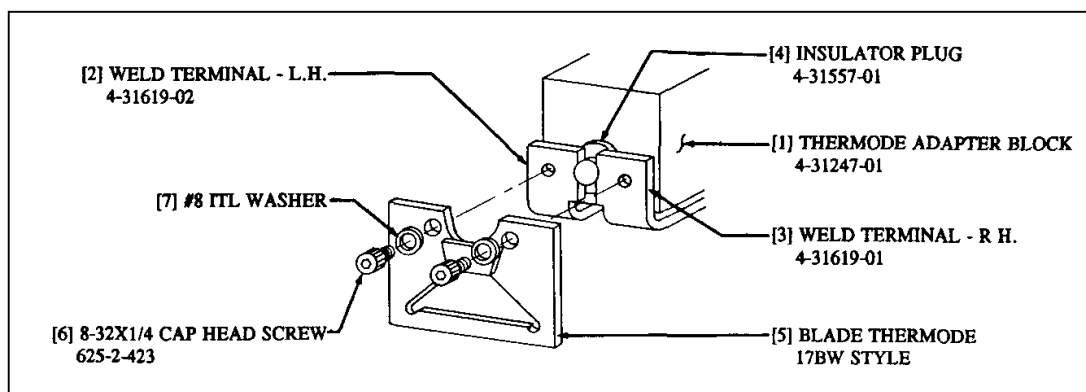

Figure 2-13. Blade Thermode, Fixed Installation
- 1 Reference Figure 2-13. Verify that the THERMODE ADAPTER BLOCK, item [1], has two separate WELD TERMINALS, item [2] and [3]. The INSULATOR PLUG, item [4], should be positioned between the THERMODE ADAPTER BLOCK and both WELD TERMINALS. Attach the BLADE THERMODE, item [5] to the WELD TERMINALS using two 8-32x1/4 CAP HEAD SCREWS, item [6], and #8 ITL WASHERS, item [7]. Leave the screws loose.